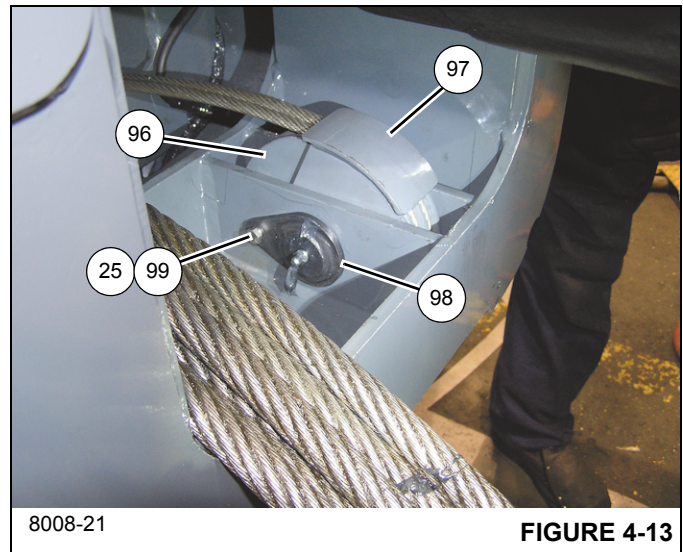

FIGURE 4-13
44. Remove the bolt (99), lock washer (25), and shaft weldment (98) securing the sheave guard weldment (97) and sheave assembly (96) to the rear of tele 2 (3) (left and right sides) (see Figure 4-13).